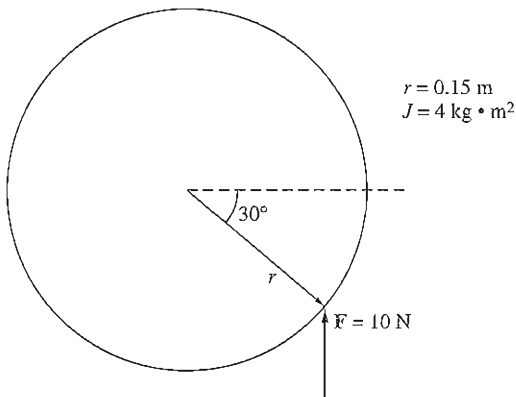

FIGURE P1-1
- 1-3. A force of 10 N is applied to a cylinder of radius $r = 0.15 \text{ m}$, as shown in Figure P1-1. The moment of inertia of this cylinder is $J = 4 \text{ kg} \cdot \text{m}^2$. What are the magnitude and direction of the torque produced on the cylinder? What is the angular acceleration α of the cylinder?